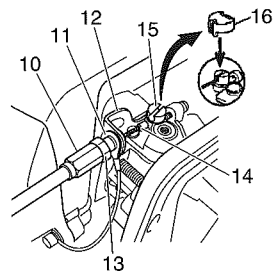

Fig. 8
If the throttle outer end (10) is threaded on your unit, screw it and the earth terminal (11) (if so equipped) into the cable adjuster stay (12) all the way, and then tighten this cable end using the adjuster nut (13) against the cable adjuster stay (12). Connect throttle wire end (14) to carburetor (15) and install swivel cap (16) (if so equipped) where is included in tool bag, onto swivel (15) (Fig. 8). Some models may come with the parts installed.